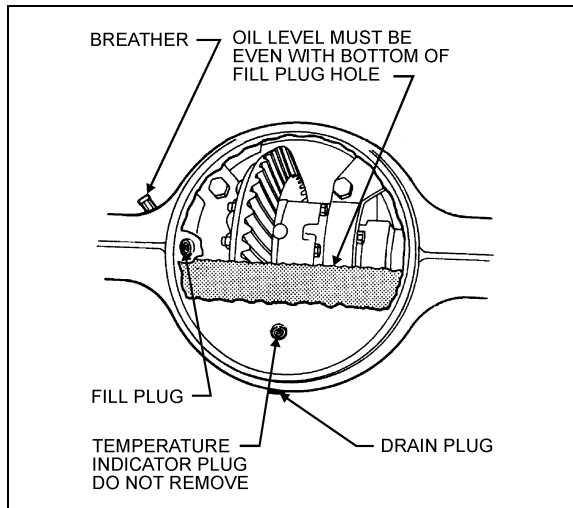

FIGURE 4: DIFFERENTIAL HOUSING BOWL 11007
Check oil level and add (if necessary) every 25,000 miles (40 000 km) or according to the fleet maintenance interval, whichever comes first (Fig. 4).
3. Clean the area around the fill plug. Remove the fill plug from the differential axle housing bowl (Fig. 4).